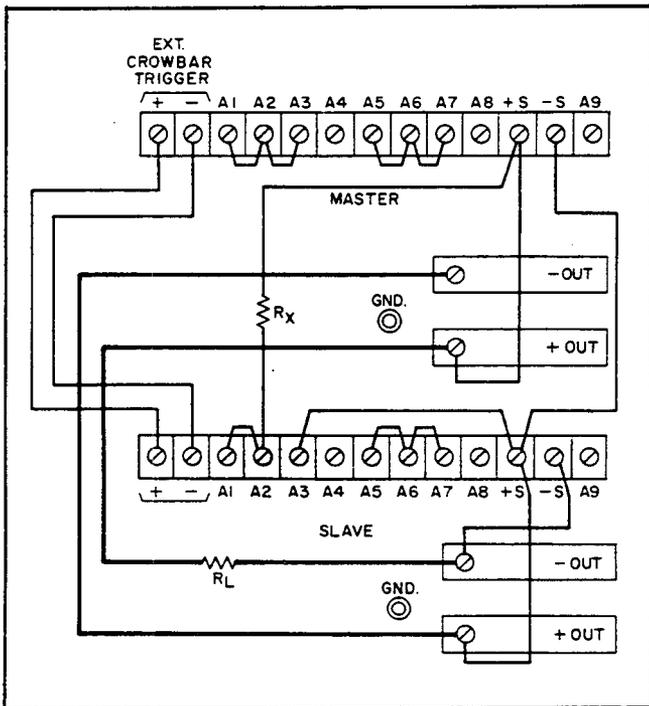

Figure 3-12. Auto-Series Operation of Two Units
3-58 Figures 3-12 and 3-13 show the rear panel and circuit board interconnections required to operate two or three supplies in the auto-series mode. This mode of operation allows two or three series-connected supplies to be simultaneously programmed by the voltage and current controls of a master supply. The master supply must always be the one at the positive end of the series combination. The output voltage of each slave supply varies in direct proportion to that of the master and the ratio of each slave's output voltage to the master's is established by the settings of the slave supplies' voltage controls. The resulting combination of two or three supplies behaves as if it were a single constant-voltage/constant-current supply. The supply with the lowest current rating limits the maximum output current of the combination. Any of the supplies included in this manual can be used as an auto-series slave, and any well-regulated variable output supply can be used as the master.
**3-64 Overvoltage Protection in Auto-Series.** The interconnections shown in Figures 3-12 and 3-13 between the external crowbar trigger terminals on the master and on the slave(s) must be made to permit the overvoltage crowbar in any one of the interconnected supplies to fire the SCRs in all of them if an overvoltage condition occurs. Be sure to connect them with correct polarity, plus to plus and minus to minus. Set the overvoltage potentiometer in each supply so that it trips at a point slightly above the voltage that supply will contribute.